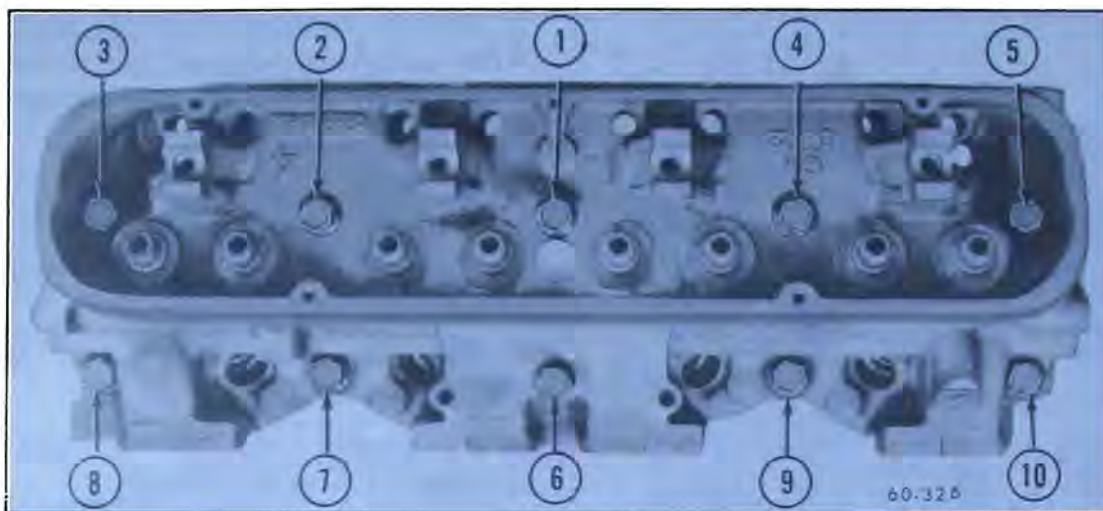

Figure 60-310—Cylinder Head Bolt Tightening Sequence
5. Install head bolts. Tighten the bolts a little at a time about three times around in the sequence shown in Figure 60-310. Give bolts a final torque in the same sequence. Torque to 100 lb. ft.